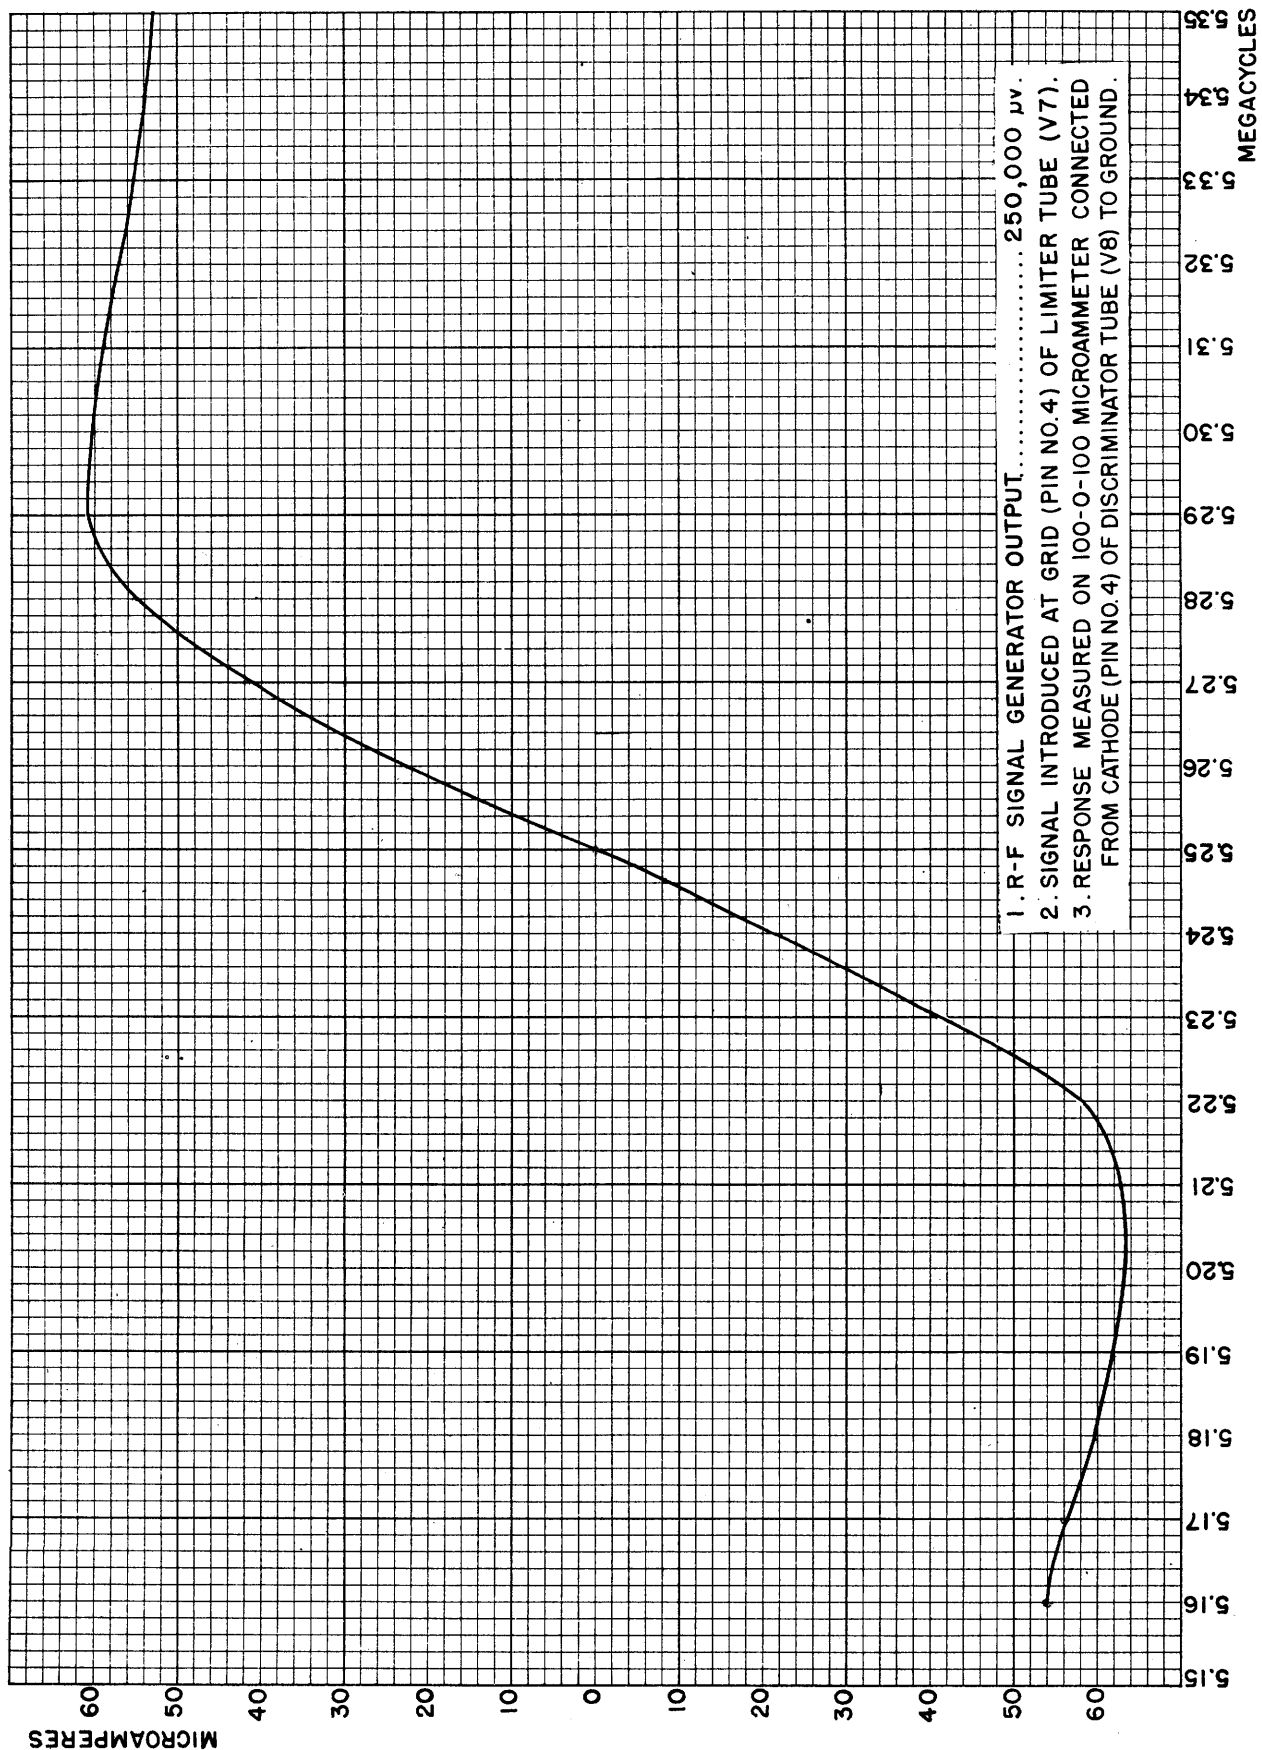

Figure 7-7: Discriminator Frequency—Characteristic Curve.
e. F-M DISCRIMINATOR ALIGNMENT. — The discriminator stage gives a linear response between 5.22 mc and 5.28 mc. This characteristic is inherent in the discriminator transformer (T14) and cannot be altered by adjustment. A short distance beyond these frequencies, the response falls off, so that two output peaks may be located: one between 5.21 and 5.22 mc, and the other at approximately 5.29 mc. A curve of the discriminator frequency characteristic is shown in Figure 7-7. The alignment procedure makes use of this characteristic in the following steps:
(1) Set the "A.M./F.M." switch on the control panel of the receiver to the "F.M." position.
(2) Set the "SELECTIVITY" switch at the "BROAD" position.
(3) Connect the signal generator according to the instructions of step (1) of the I-F ALIGNMENT PROCEDURE.
(4) Tune the Navy Model LF-series Signal Generator to 5.25 mc, and turn on the 1000 cycle modulation.
(5) Adjust the secondary slug screw (S8) of the discriminator transformer (T14) with the non-metallic screw driver until the "CARRIER INDICATOR" meter (M1) indicates "0." Turn the screw (S8) slowly as this point is reached; it is easy to pass through it